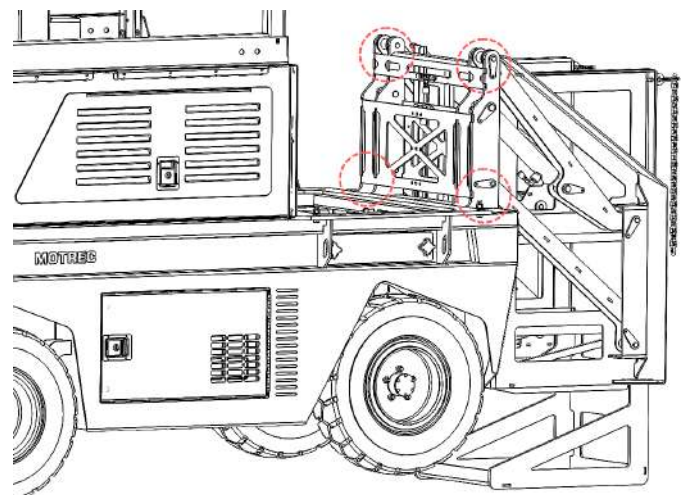

Figure 35. Edges And Corners Of The Bridge Plate Elevator.
- The edges and corners of the bridge plate elevator on both sides (see Figure 35) can be prone to wear and damage. Special attention should be paid to these areas to prevent deformation or cracks.